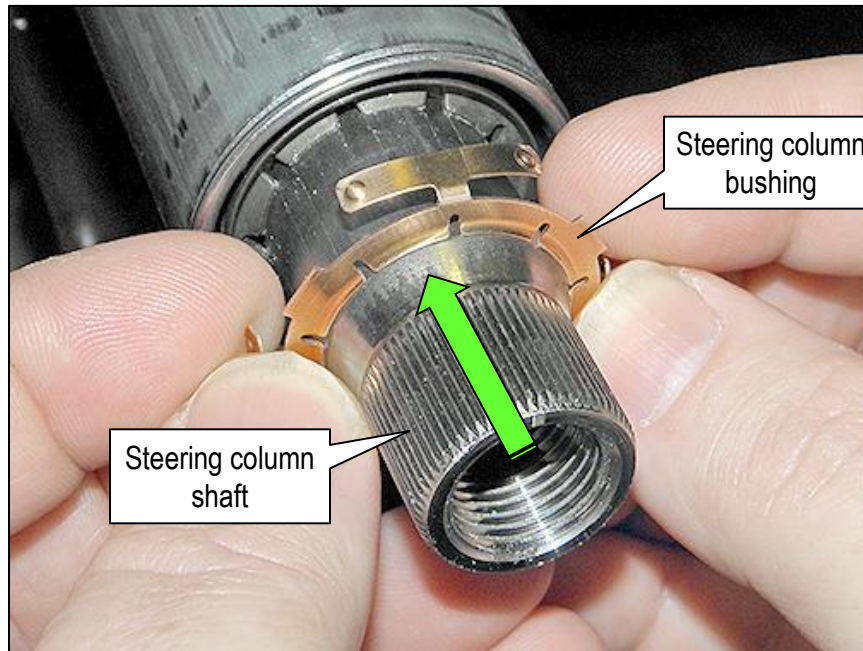

Figure 19
19. Slide the "BEARING ASSY-ST" (steering column bushing) onto the steering column shaft as shown in Figure 19.